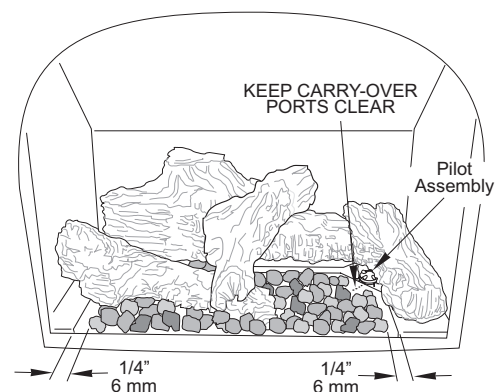

Figure 14. Spread ember stones over the burner plate.
5. Position embers loosely and maintain 6mm clearance from the burner skirt edges. DO NOT OBSTRUCT THE PILOT ASSEMBLY OPENING and do not pile the embers in front of the burner skirt edges. See fig. 14.